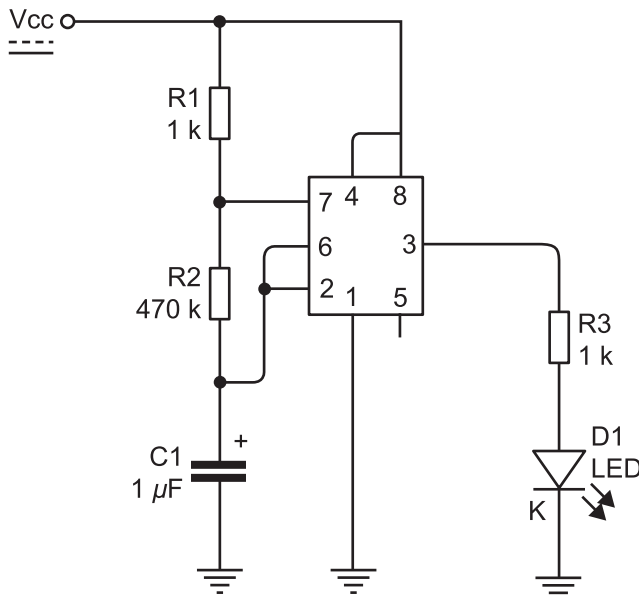

Figure 4
Figure 4 above is the schematic circuit diagram for an LED flasher, which utilises an eight-pin IC in the circuit.
Refer to the schematic circuit diagram, Figure 4, when answering the following questions.
- b. Which components in the circuit in Figure 4 can be changed to modify the frequency and pulse width of the LED flasher?
- c. What does the letter K beside component D1 identify on the circuit diagram in Figure 4? 1 mark
The LED flasher PCB artwork has four tracks that are missing. Referring to the schematic diagram (Figure 4) on page 14, draw in clearly each of the four missing tracks on Figure 6 above. Use a pencil to complete this task.